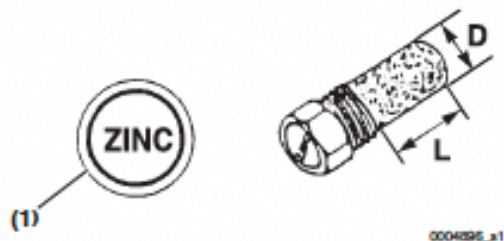

Figure 4-7
3. Remove all the plugs labeled ZINC (Figure 4-7, (1)).